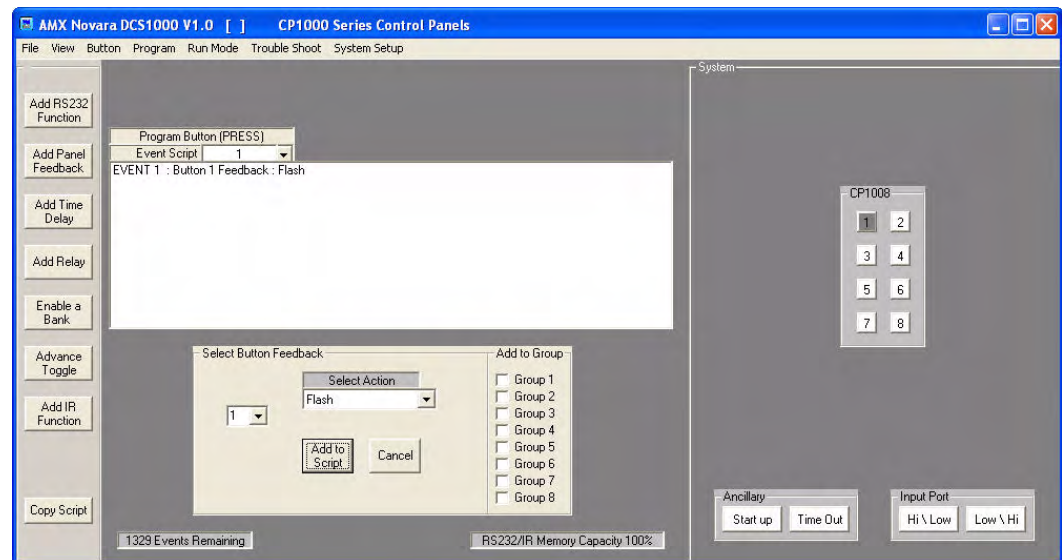

FIG. 26 Button 1 selected, "Flash" Button Feedback selected and added to Script as "Event 1"
1. Select a button, and add **Flash** feedback as Event 1 (FIG. 26).